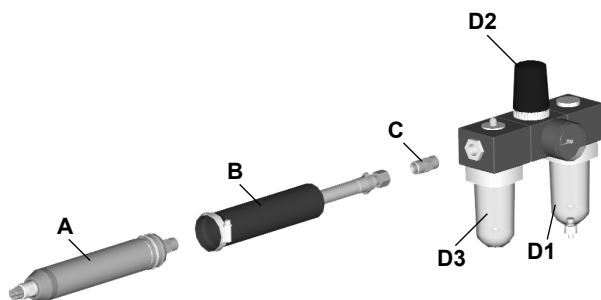

Fig. 1: Connection to R 4102 / R 4105
- Connect the pneumatic grinding spindle (A) to the maintenance unit (D1 - D2), using the hose kit (B) and the threaded nipple (C) (see Fig. 1).